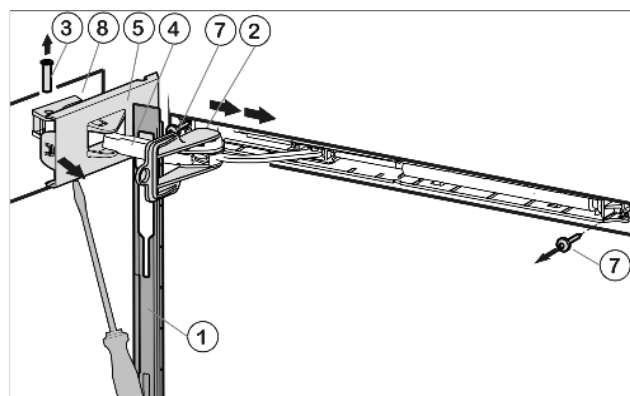

Fig. 5
- ▶ Slide the faceplate forwards over the soft stop bracket Fig. 5 (4) in the direction of the appliance.
- ▶ Snap the accompanying safety lock Fig. 5 (2) into the oblong hole.
- ▶ Using a screwdriver, detach the cover Fig. 5 (5) on the hinge side as far as the first detent.
- ▶ Press the pin Fig. 5 (3) out from underneath.
- ▶ Press the soft stop bracket Fig. 5 (4) towards the door.
- ▶ Fully detach the cover Fig. 5 (5) on the hinge side and remove it.
- ▶ Remove the faceplate Fig. 5 (1).
- ▶ Unscrew the soft stop unit (2x Torx 15) *Fig. 5 (7)*.
- ▶ Unscrew the bearing element *Fig. 5 (8)*, turn it 180° and transfer it to the opposite side. Possibly make preliminary holes with a bradawl or use a cordless screwdriver.